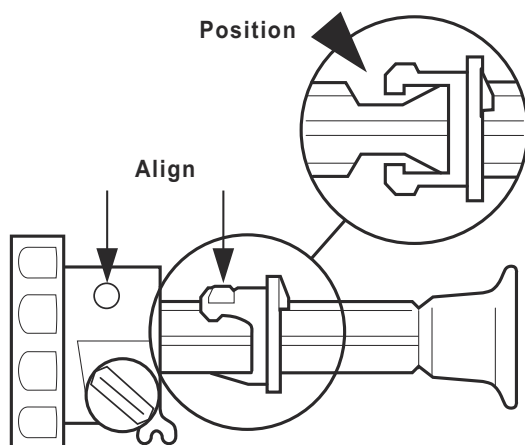

Figure 14-12. Insert the Plunger.
- Insert plunger by aligning plunger/bushing arrow with holes in the pump body and pushing the plunger/bushing into the pump body until it snaps in place (see fig. 14-12 on page 14-17).